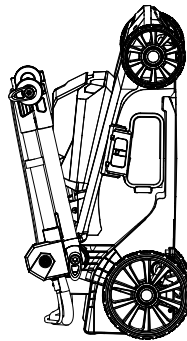

Fig. 23
- The mower can be stored in the upright position to save place (Fig. 23).